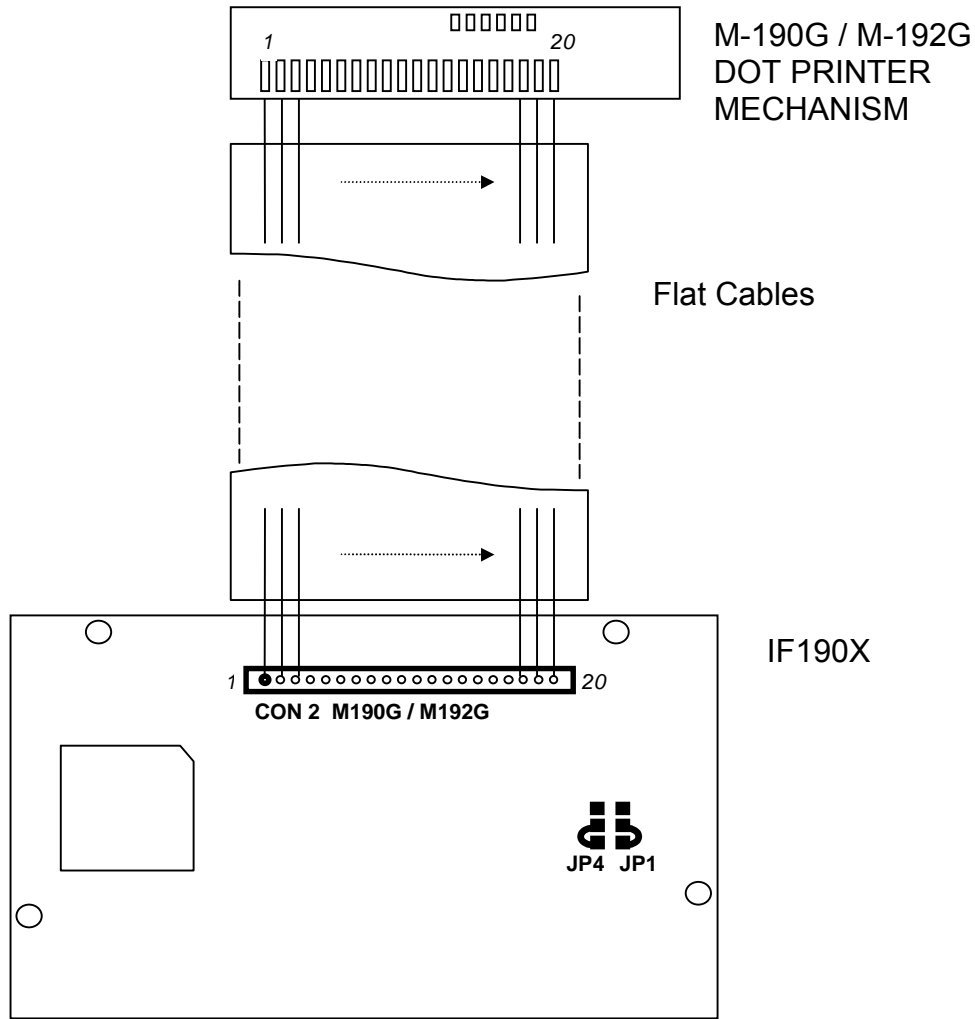

Fig. 2.5.- Connecting EPSON M-190G / M-192G Printer to 190X **CON 2** printer terminals.
If using M-190G / M-192G micro dot printer connect it to **CON 2** (see **fig. 2.5**).
- 1.- Solder **JP1** and **JP4** pads as shown in **fig. 2.5**.